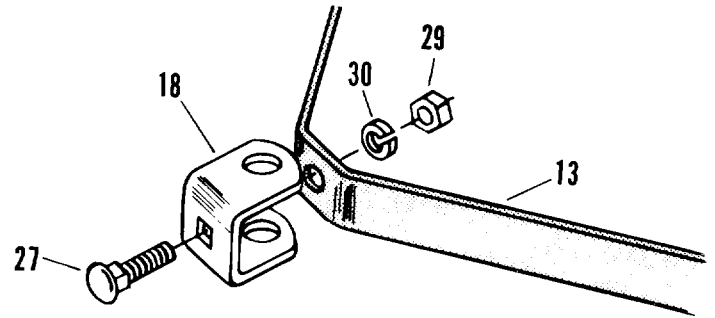

FIG. 4
Fig. 4. Assemble the wheel mount bracket (18) to the frame bar (13) with one 5/16" x 3/4" carriage bolt (27) inserted through the square hole and secured with one 5/16" lock washer (30), and one 5/16" hex nut (29) - on the inside of the frame bar. Tighten securely.